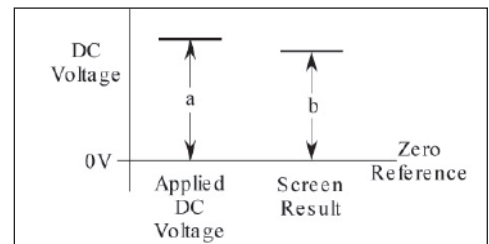
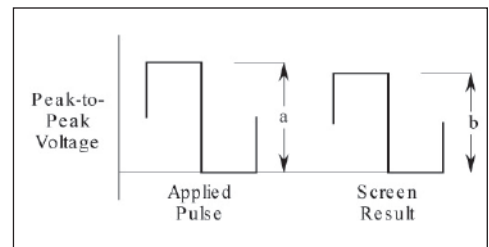

Figure 1. DC voltage – gain (includes offset)
Figure 2. Low frequency square wave – gain (can be manipulated to remove the offset).
1. With dc coupling, either a dc signal (figure 1) or a square wave (figure 2) is injected, and the channel's response is measured against graticule divisions or cursor readings.